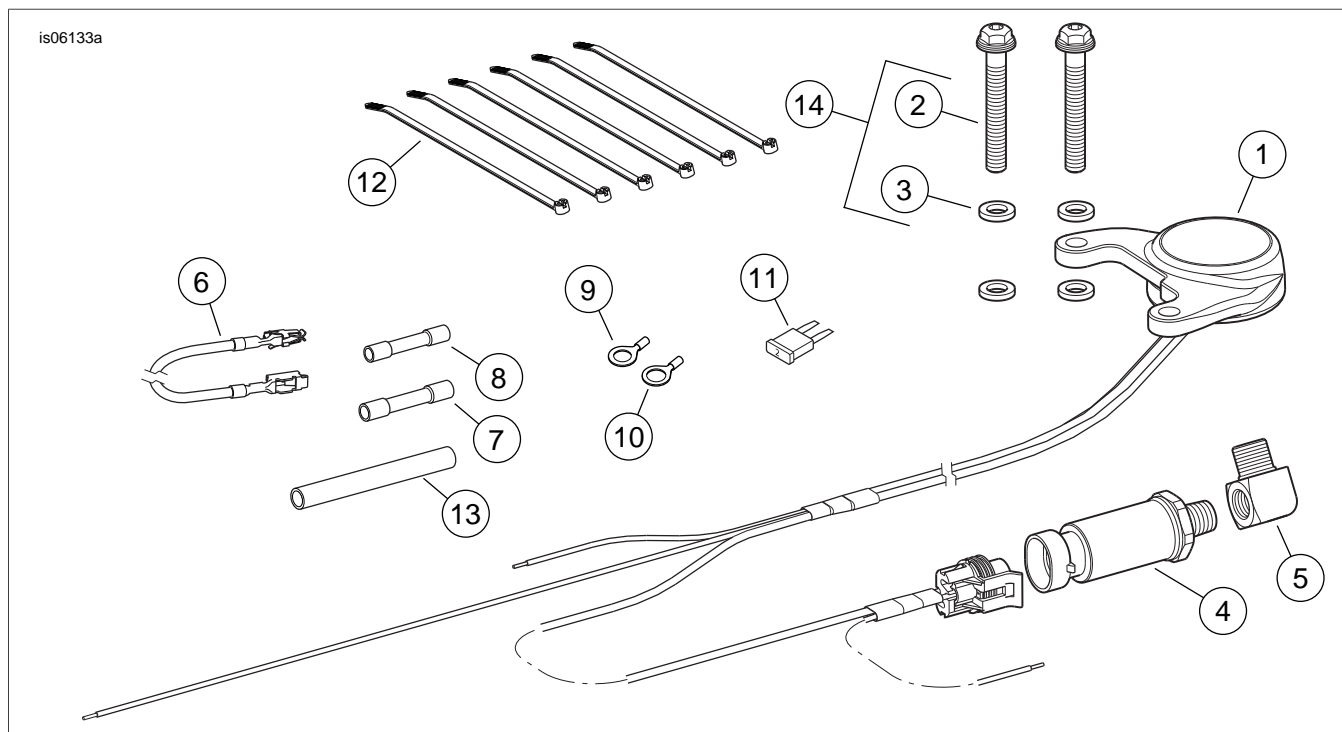

Figure 5. Service Parts, Digital Oil Pressure Gauge
- Cut the original equipment (OE) oil pressure switch connector (circuit [120] or [139], depending on model and year) from the green/yellow wire on the vehicle harness.
- See Figure 5. Slide the shrink tube (13) onto the wire. Using the **red** sealed splice connector (8), splice the green/yellow wire from the **new** oil pressure sender connector to the green/yellow wire on the vehicle harness.
- Cut the excess length from the orange/white wire on the **digital oil pressure gauge harness** to within easy reach of the orange/white adapter wire installed in Step 3. Refer to the warning before **Wire Harness Routing, Step 3**, and the service manual. Using the **blue** sealed splice connector (7) from the kit, splice the orange/white wire from the digital oil pressure gauge harness to the orange/white adapter wire.
- See Figure 5. Install the 2A fuse (11) from the kit into the OPEN fuse cavity to complete the circuit.
6. See Figure 5. Install the 2A fuse (11) from the kit into the P&A IGN fuse cavity to complete the circuit.
7. See Figure 5. Install the 2A fuse (11) from the kit into the P&A IGN fuse cavity to complete the circuit.
4. See Figure 5, the warning under **Harness Connection**, and the service manual. Using the **blue** sealed splice connector (7) from the kit, splice the orange/white wire together with the orange/white wires cut in Step 2.